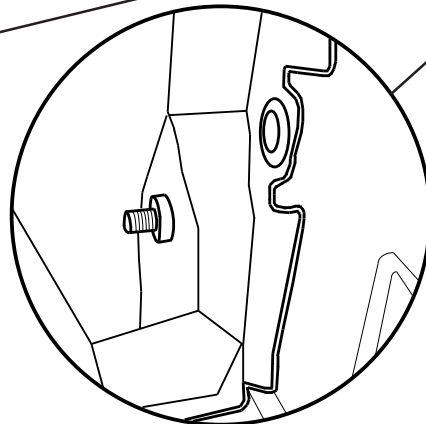

Fig. 6B
11. While holding stud in place, snap plastic retention clip over weld stud from front to secure in place, each side. (Fig. 6B)
12. Place trunk fabric liner in place and reinsert plastic fasteners and push center pin in until flush, each side. (Fig. 6B)